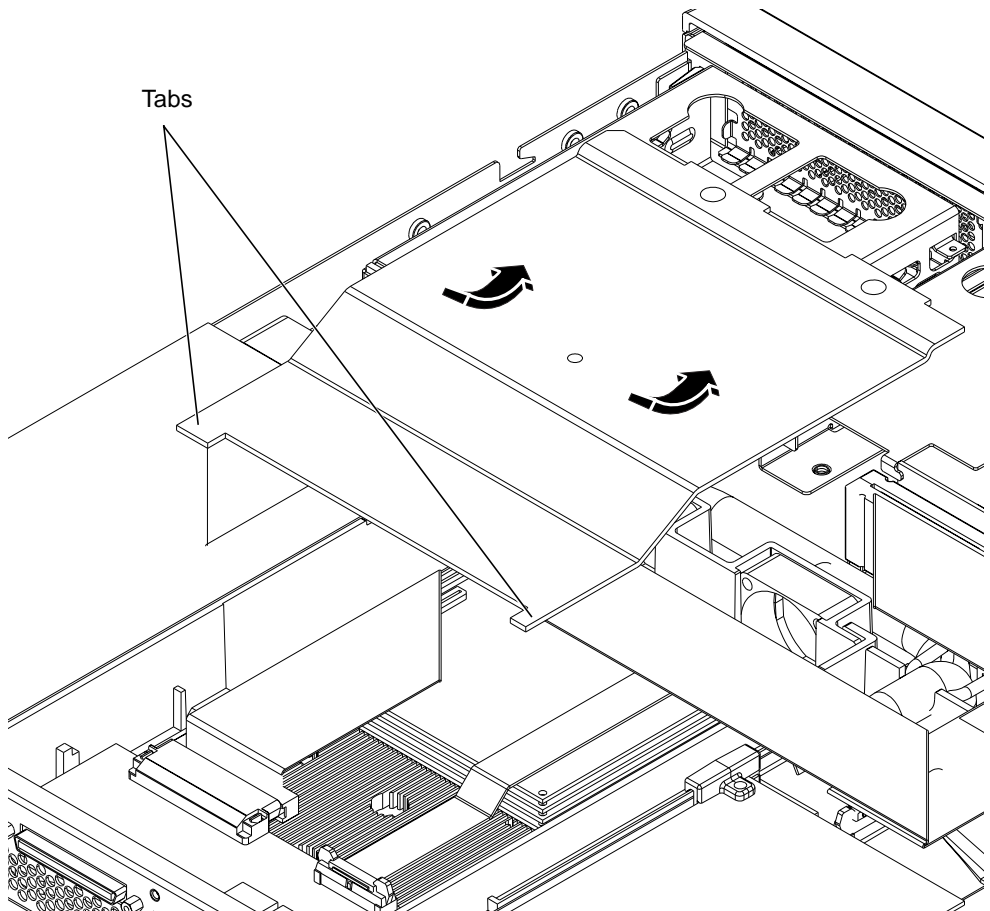

FIGURE A-2 Lifting out the Processor Cover
2. Lift out the processor cover located in the rear center of the unit (see FIGURE A-2).